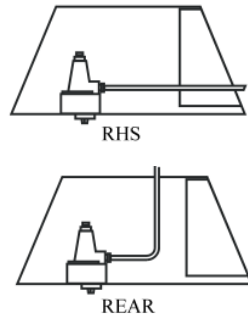

Figure 54
1. The gas supply can be fed into the firebox from rear or the right hand side (see **Figure 54**). Care should be taken to sleeve the pipe when passing through masonry.